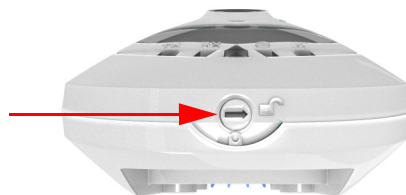

Figure 2.10 – HD77 Camera Lock
15. Close the lock (see Figure 2.10 on page 13). The installer diagnostic LEDs switch- off.
1. Open the lock (see Figure 2.10 on page 13).
- c. Close the lock mechanism at the bottom of the HD77 camera (see Figure 2.10 on page 13).